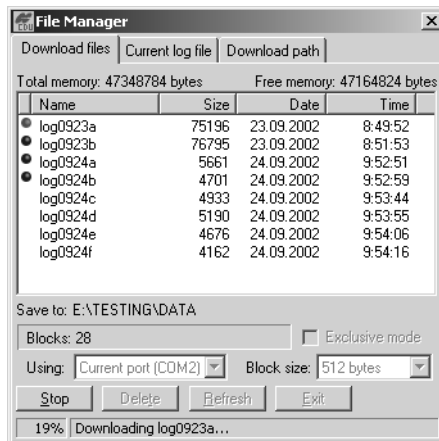

Figure 4-6. Download Files – Status Indicators
- Click the **Download** button. During the download, status indicators display next to each file (Figure 4-6).